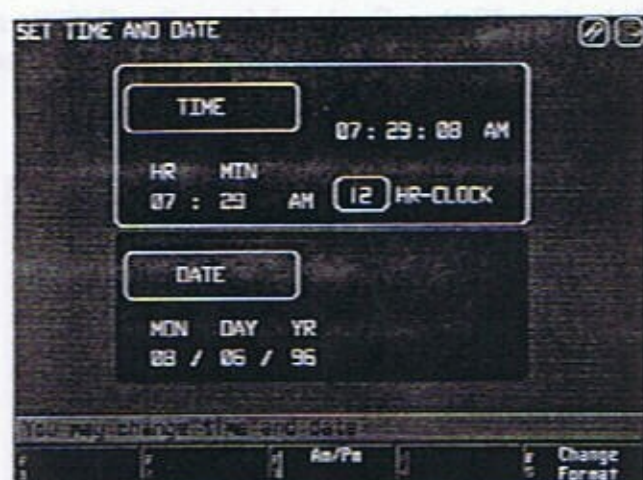

Figure 5-13
2. The "Set Time and Date" screen appears (see Figure 5-13) with the current settings displayed.